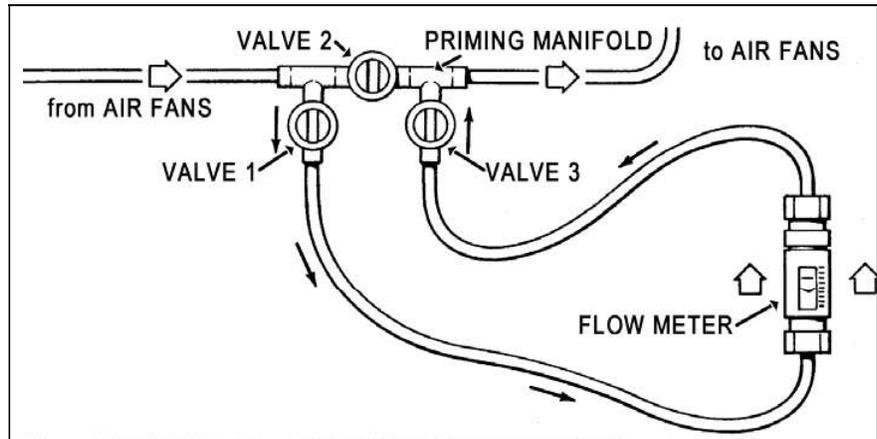

Figure 8-3: Flow Meter Inline with Circulation Loop
- 17** Verify the flow rate with an inline flow meter (see Figure 8-3 and Section 7-2).